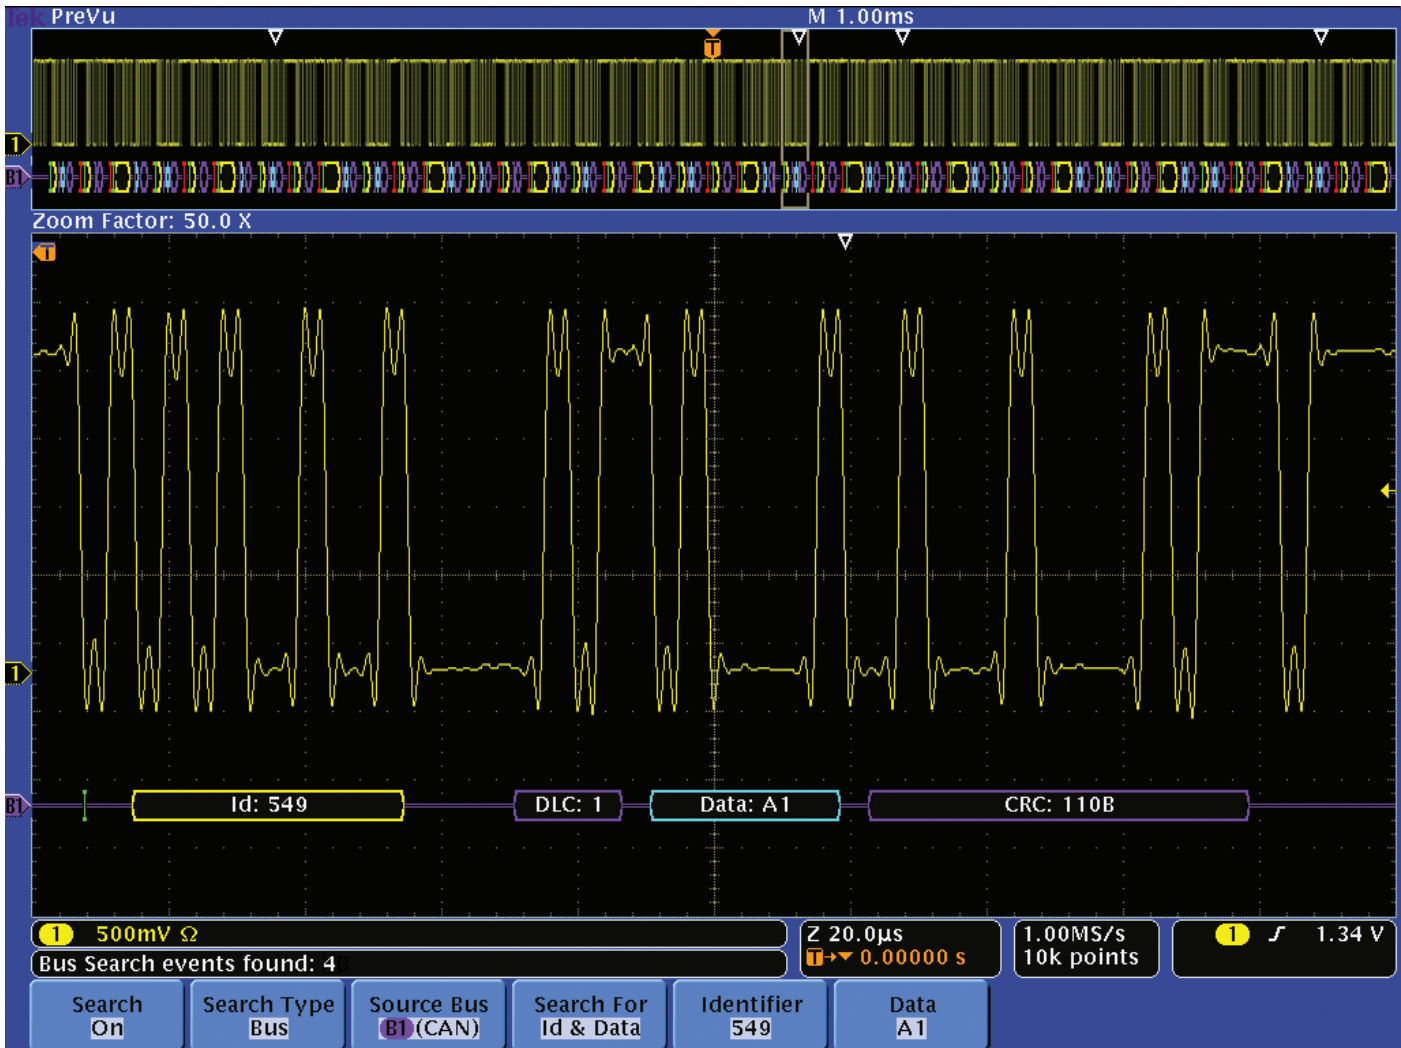

Figure 6. Searching for specific Identifier and Data values in CAN messages.
While this triggering is critical to isolate the time window that contains the problem, it's highly likely that you'll need to view bus activity over many packets to understand what's going on at a system level. The bus search feature enables you to specify packet level criteria and mark every occurrence of it in the record for quick viewing, navigation and analysis. Continuing the earlier CAN example, in Figure 6 we've searched for every message in a long acquisition of a CAN bus with the specific Identifier (549) and Data (A1) values we're interested in.